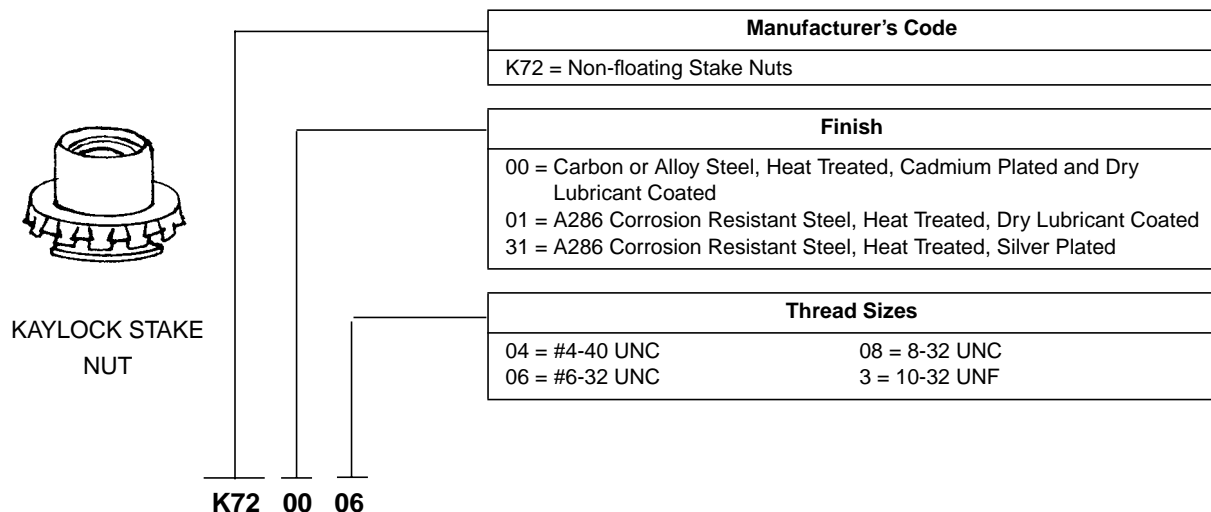
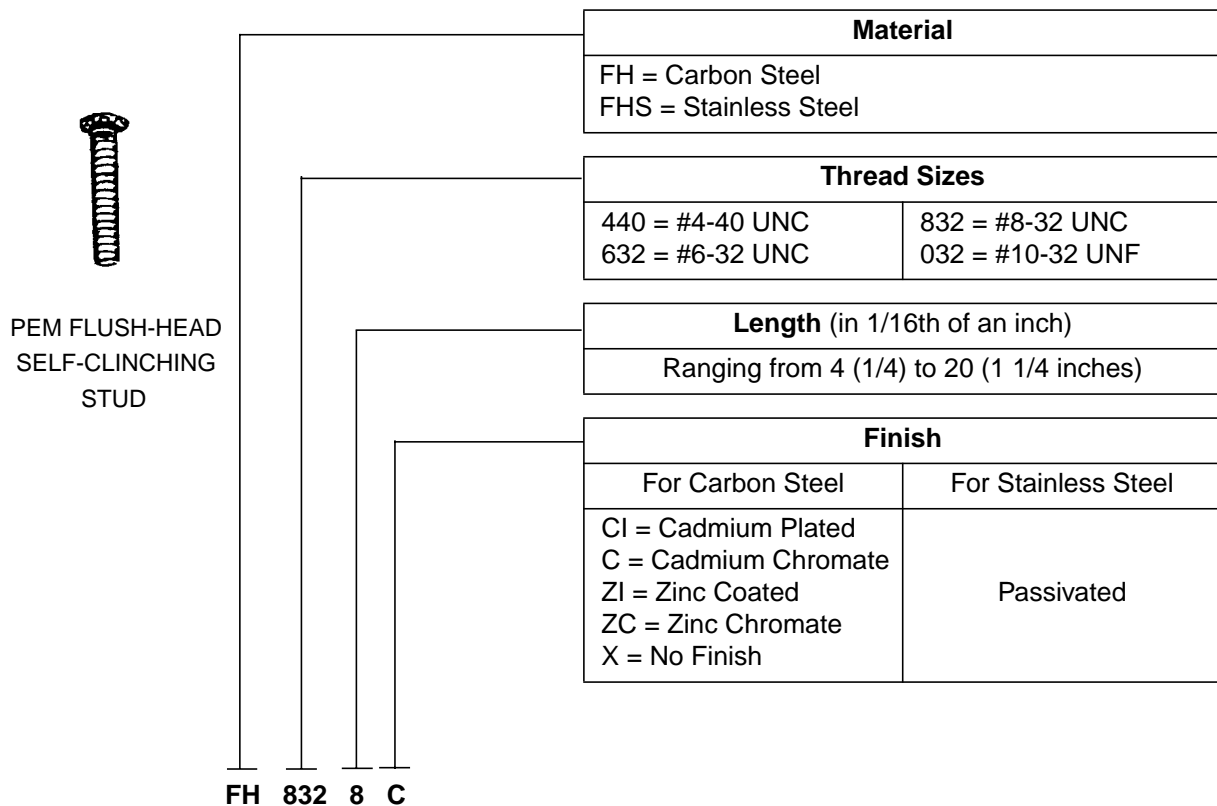

Figure 2 - Part Number Breakdown of ESNA Spline Nuts
Figure 5 - Part Number Breakdown of PEM Flush-Head, Self-Clinching Studs
- 4.1.1 ESNA spline nuts, ESNA clinch nuts, Kaylock stake nuts, PEM flush-head self-clinching hexagon nuts, and PEM flush-head self-clinching studs as specified on the Engineering drawing. Refer to Figure 2 through Figure 5 for the part number breakdown of Kaylock stake nuts ESNA spline nuts, ESNA clinch nuts, PEM flush-head self-clinching hexagon nuts and PEM flush-head self-clinching studs, respectively.